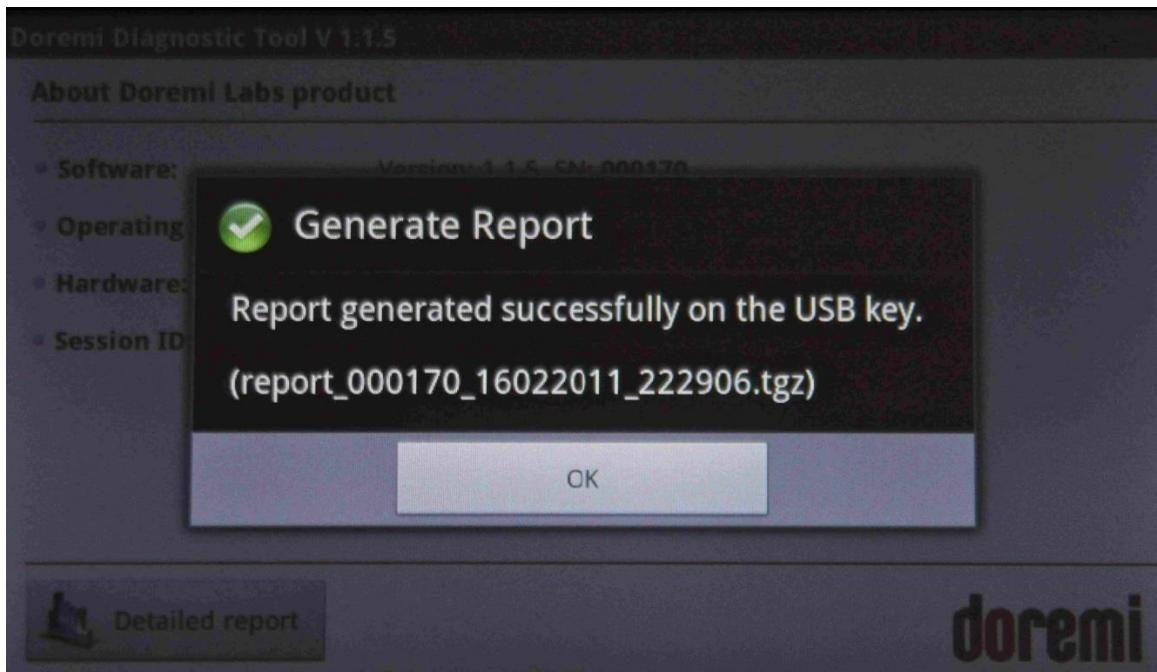

Figure 69: Report Generated Successfully
- When the process is complete, you will receive a message that states, "Report generated successfully on the USB key," along with the report number (Figure 69).
- Press the OK button to complete the process (Figure 69).